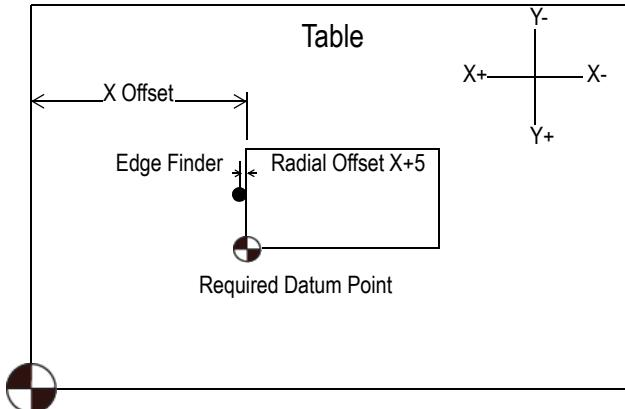

Figure 6-1: X-Axis Location
2. Using the axis direction pushbuttons position the edge finder near the left-hand side of the work piece (Figure 6-1:).
6. Type the current programme position from datum edge to spindle centreline e.g. X+5 (Figure 6-1:)